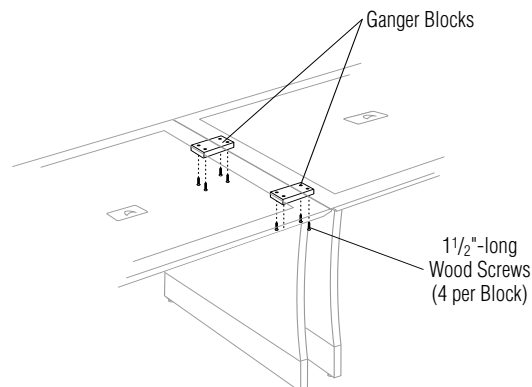

Figure 5
6. For ganged and/or electrically interconnected tables, attach two wood ganger blocks with 1 1/2"-long wood screws to the underside of the table top on each end (Figure 5).